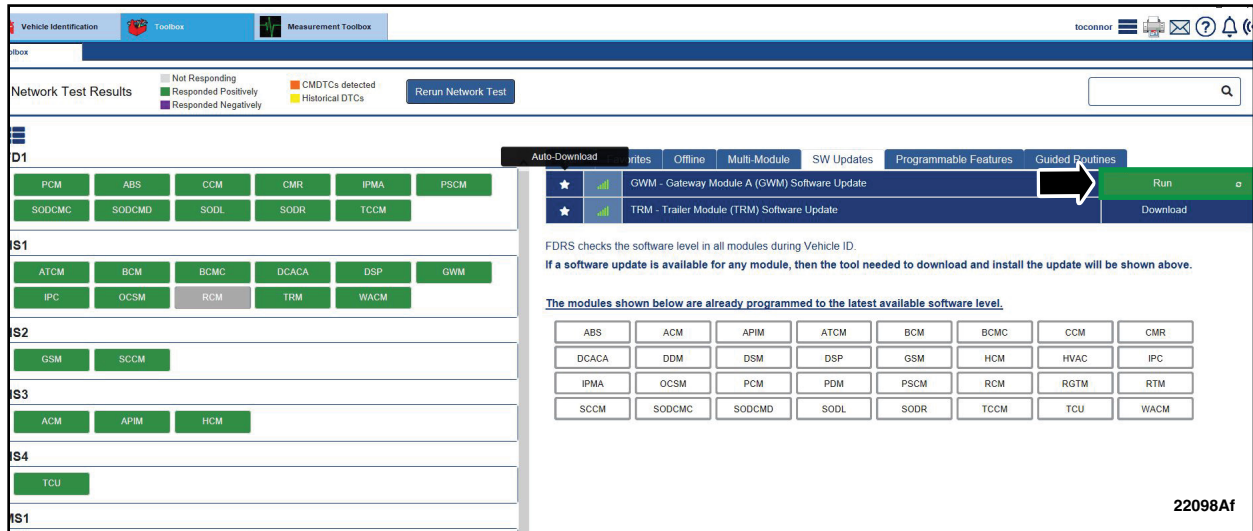

FIGURE 7
9. Click RUN to start the GWM update. See Figure 7.